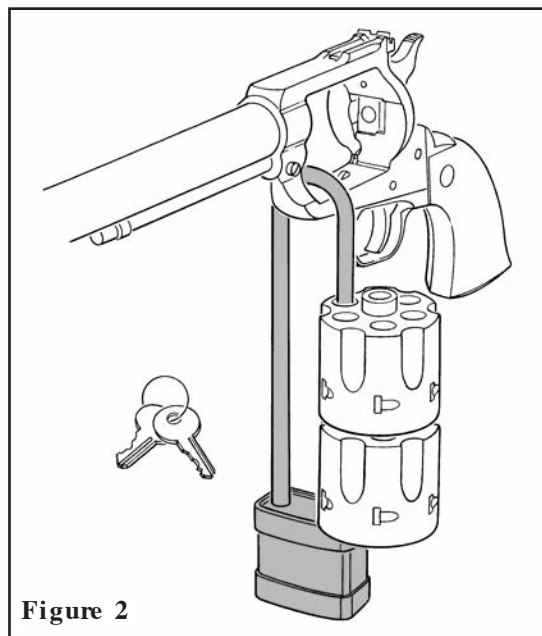

Figure 2
5. In the case of a New Model Blackhawk Convertible single action revolver, thread the shackle through the cylinder window of the revolver and slide both cylinders supplied with the revolver (that is, the one that you just removed from the firearm **and** the extra cylinder supplied with the firearm) onto the shackle. Proper application of the locking device to the revolver and cylinders is shown in Figure 2.